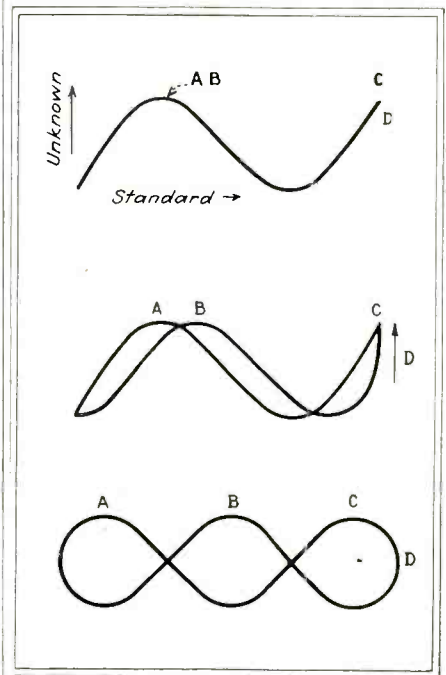

Fig. 1—Lissajous figures for a frequency ratio of 3:1. Top, the two frequencies are shown in phase; center, slightly out of phase; bottom, in quadrature
The simplest method is by means of Lissajous figures. If a voltage from a frequency standard is applied to one pair of plates of a cathode-ray tube, and the voltage of unknown frequency is applied to the other pair of plates, patterns of the type shown in Fig. 1
will result on the screen. These are called Lissajous figures. If the voltages are in quadrature, the third or lowest pattern of Fig. 1 will be obtained. The ratio of the horizontal tangent points (A, B, C) to the number of vertical tangent points (D) is the ratio of the frequency of the voltage on the horizontal plates to the frequency of the voltage on the vertical plates. In Fig. 1 the frequency ratio is 3:1. Using this method the tangent points can